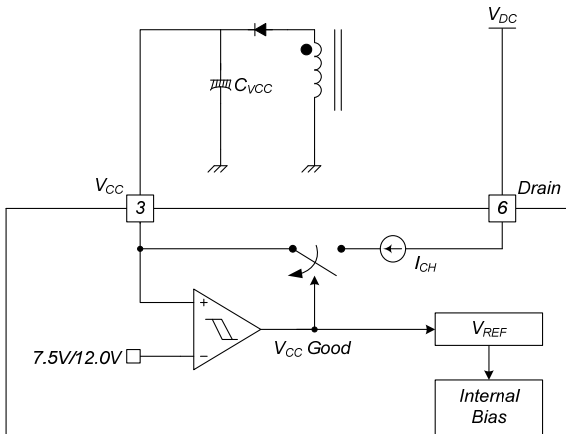

Figure 17. Startup Block
**1. Startup:** At startup, an internal high-voltage current source supplies the internal bias and charges the external capacitor ( $C_{VCC}$ ) connected to the  $V_{CC}$  pin, as illustrated in Figure 17. When  $V_{CC}$  reaches 12V, the FSL128MRT begins switching and the internal high-voltage current source is disabled. Normal switching operation continues and the power is supplied from the auxiliary transformer winding unless  $V_{CC}$  goes below the stop voltage of 7.5V.